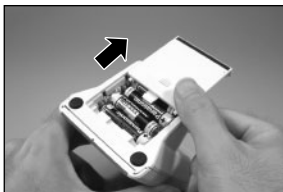

Fig. 15
- ① Turn OFF the power.
- ② Remove the batteries after sliding the battery cover on the back of the unit in the direction of the arrow. (Fig. 15)